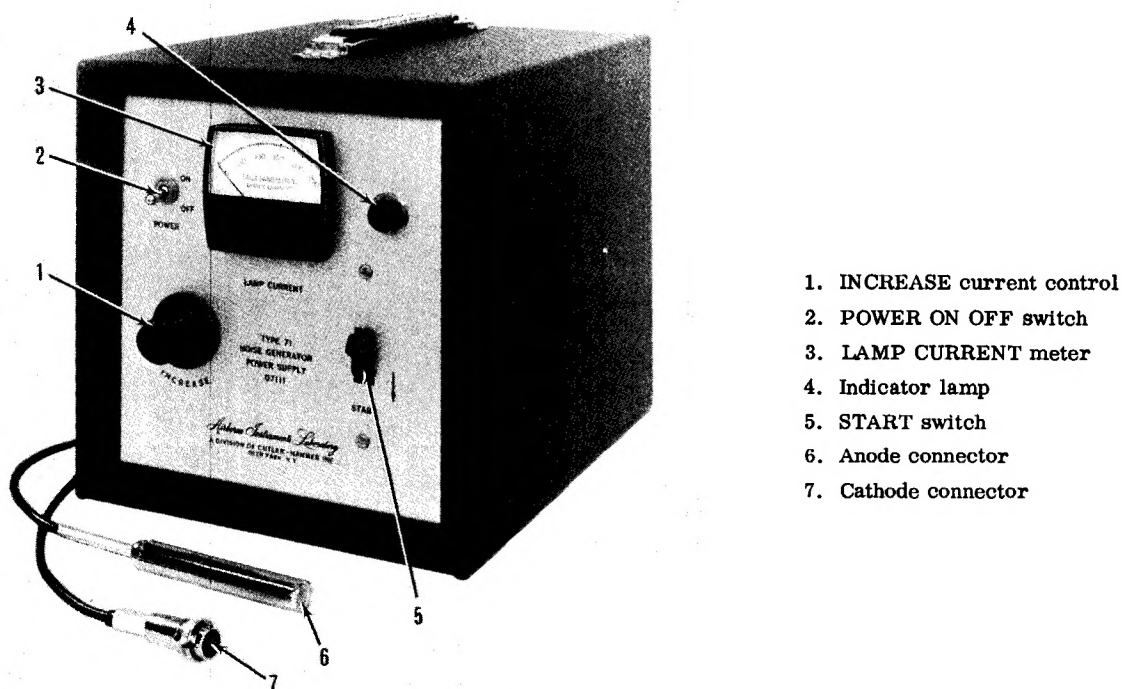

FIGURE 2. FRONT-PANEL CONTROLS AND INDICATORS
The AIL Type 71 Noise Generator Power Supply, Part Number 07111 (hereinafter referred to as the Type 71), provides the high voltage necessary to fire argon and neon discharge tubes in noise generators (Figure 1). The output discharge current from these tubes can be adjusted to 250 mA with the INCREASE current control (1, Figure 2). Filament-type and cold cathode tubes can be operated from the Type 71.
1. Connect the cathode connector (7, Figure 2) to the cathode end of the noise generator being used. Insert the cathode connector in line with the axis of the noise generator. To prevent damage to the noise lamp, be sure that the tube pins line up with the connector. The nut retaining spring must seat flush against the connector mount, without excessive pressure, before the locknut is tightened.
2. Push the anode connector (6) into position at the anode end of the noise generator.
4. To fire the lamp, place the POWER ON OFF switch (2) to ON; the indicator lamp (4) should light. Push the START switch (5) down and then release it. This generates a high-voltage pulse between the anode and the cathode of the tube and ionizes the gas.
6. Set the POWER ON OFF switch (2, Figure 2) to ON.
7. Close the spring-loaded START switch (5) and release it. Measure the spike voltage amplitude on the oscilloscope as the START switch (5) is operated.